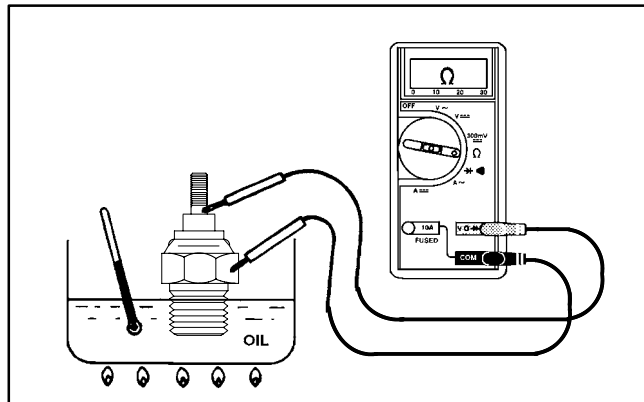

Figure 51
2. Suspend sender in a container of oil with a thermometer and slowly heat the oil (Fig. 51).